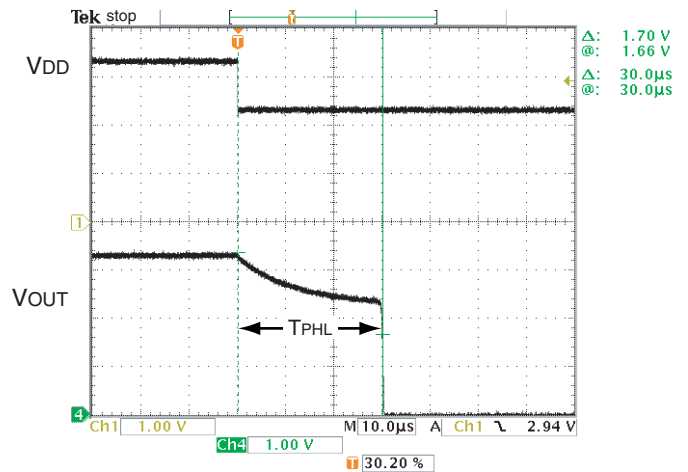

Fig.16
- ① If the VDD is equal to or lower than the operating limit voltage ($VOPL$) at power-up, the output is inconsistent.
- ② When the VDD is equal to or more than the $VOPL$ and the VDD is equal to or more than the reset release voltage ($V_{DET} + \Delta V_{DET}$), CT pin voltage (V_{CT}) is "L" and output (VOUT) is also "L".
- ③ When the VDD is equal to or more than reset release voltage ($V_{DET} + \Delta V_{DET}$), VOUT goes from "L" to "H" with a delay of T_{PLH} set by the capacitor that is connected to CT pin.
- ④ If the VDD goes below the detection voltage (V_{DET}) at power-down or instantaneous power failure, VOUT turns L with a delay of T_{PHL} . See Fig.16 for the reference waveform. The potential difference between the detection voltage and the release voltage is called hysteresis (ΔV_{DET}). The products are designed so as to prevent power supply fluctuation within this hysteresis from causing fluctuation in output in order to avoid malfunction due to noise.